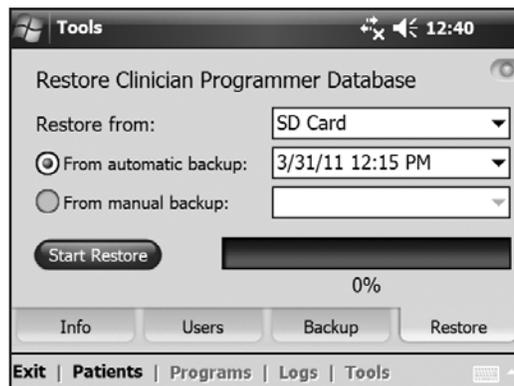

Figure 8-49: Restore window.
4. Press the **Tools menu** and then the **Restore tab**. The Restore window will open. See Figure 8-49.